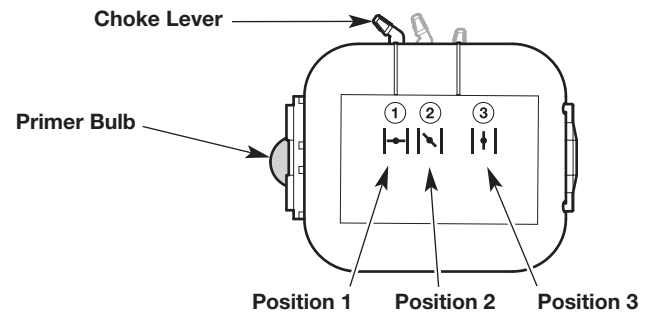

Fig. 12
3. Slowly press and release the primer bulb **10 times** (Fig. 12). If fuel cannot be seen in the primer bulb, press and release the primer bulb until fuel is visible.
4. Move the choke lever to **Position 1** (Fig. 12).
7. Continue to squeeze the throttle control or keep the cruise control in the **HI (fast)** position. Move the choke lever to **Position 2** (Fig. 12).
10. Continue to squeeze the throttle control or keep the cruise control in the **HI (fast)** position. Move the choke lever to **Position 3** (Fig. 12). Allow the engine to warm up for an additional 60 seconds. The unit may be used during this time.
IF... the engine hesitates, return the choke lever to **Position 2** (Fig. 12) and continue the warm-up.